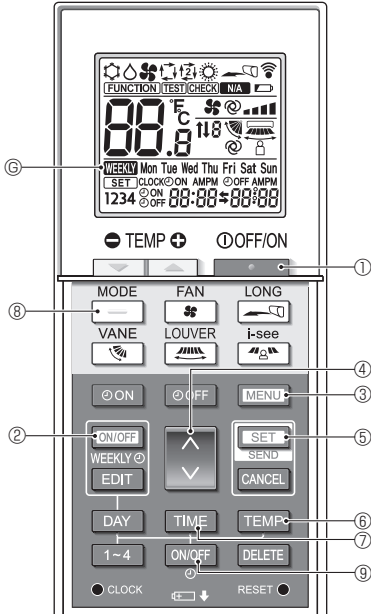
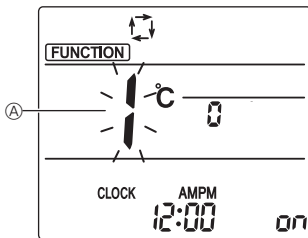
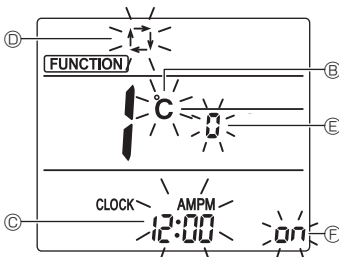

Fig. 5-1
Fig. 5-2
Fig. 5-3
5.1. Switching to the initial setting mode (Fig. 5-1, Fig. 5-2)
- Press the button ① to stop the air conditioner.
- If the weekly timer is enabled, press the button ② to disable the timer. (WEEKLY ⑥ disappears.)
- Press the button ③.
- The Function setting screen will be displayed and the function No. ④ will blink.
- Press the button ④ to change the function No.
- Check that function No. "1" is displayed, and then press the button ⑤.
5.2. Changing the temperature unit (Fig. 5-1, Fig. 5-3 Ⓓ)
- Pressing the button ⑥ changes the temperature unit (°C / °F). (The factory setting is "°C".)
5.3. Changing the time display (Fig. 5-1, Fig.5-3 Ⓒ)
- Pressing the button ⑦ changes the time display (12:00 / 24:00). (The factory setting is "12-hour format".)
5.4. Changing the AUTO mode (Fig. 5-1, Fig.5-3 Ⓔ)
5.5. Changing the pair No. (Fig. 5-1, Fig.5-3 ㊦)
(Fig. 5-1, Fig. 5-3 ㉔)
(Fig. 5-1, Fig. 5-2)